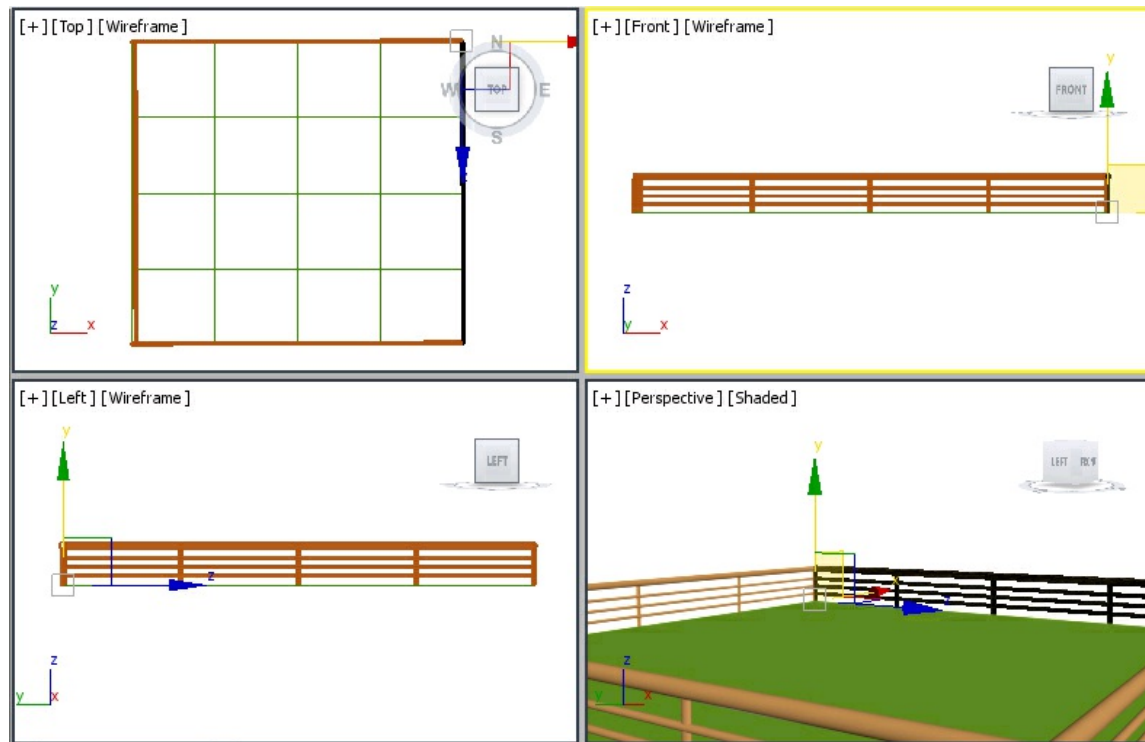

Figure 4-74 The railings geometry displayed in viewports
11. Create other railings to surround *floor* keeping same dimension, except the length. Also, activate the Perspective viewport and set the view using the **Pan**, **Zoom**, and **Orbit** tools, as shown in Figure 4-74.